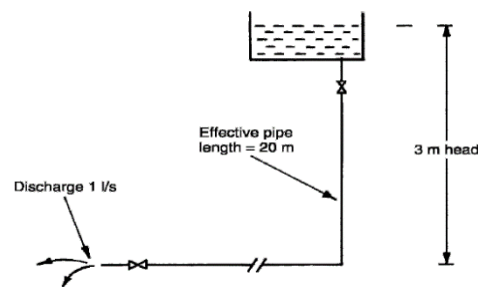

Figure A1(a)
- (a) By using the Thomas Box Formula method, estimate the diameter of the pipe from Figure A1(a) below.